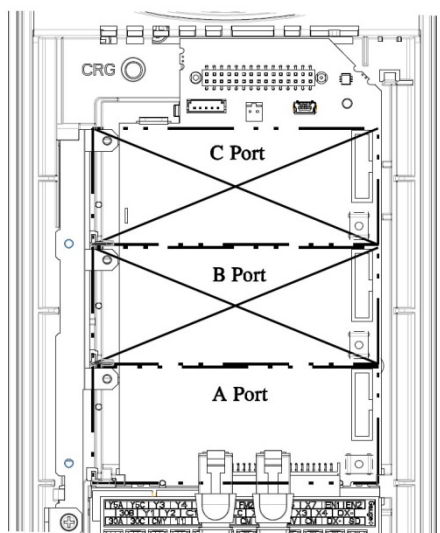

Figure 5: Option Port Locations
1. Remove the front cover from the inverter to expose the control printed circuit board (control PCB). As shown in Figure 5, there are three option connection ports (A-port, B-port and C-port). The OPC-ETH card is mechanically keyed for, and can only be installed into, the A-port (bottom-most) position.